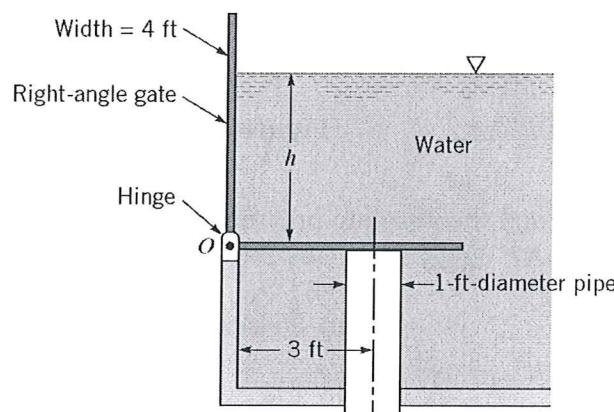

Figure 4
4. A thin 4-ft wide, right angle gate with negligible mass is free to pivot about a frictionless hinge at point O as shown in figure 4 below. The horizontal portion of the gate covers a 1-ft-diameter drain pipe, which contains air at atmospheric pressure. Determine the minimum water depth, h , at which the gate will pivot to allow water to flow into the pipe.